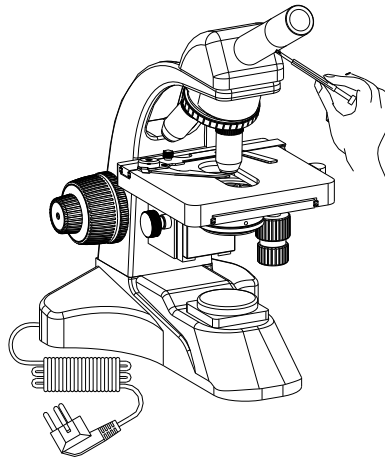

Fig.4
- 6.5 Insert the Eyepiece: slide the eyepiece into the Eyepiece tube. (Fig.4)